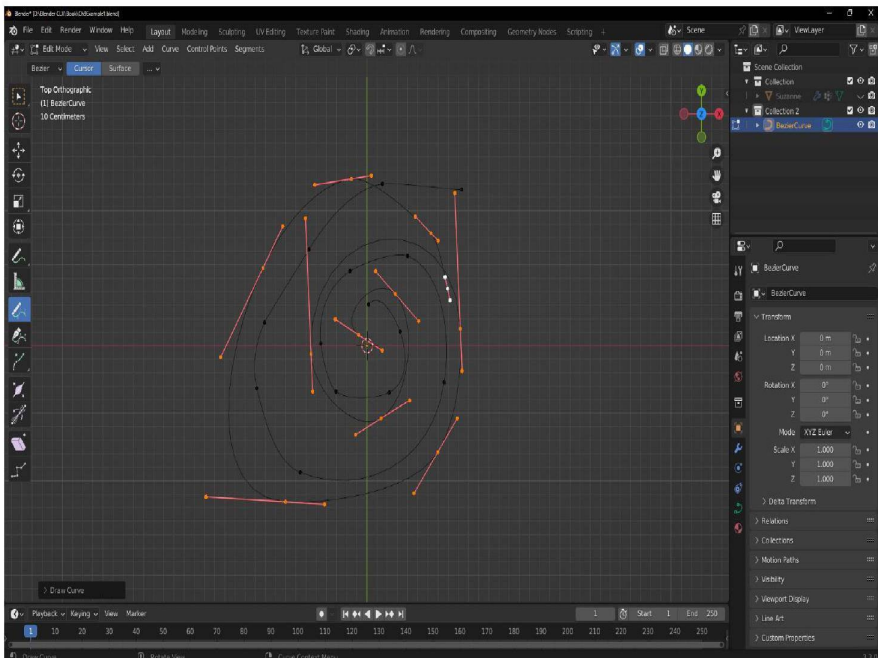

Figure 9.5: Spiral Bezier Curves, hand-drawn in Edit Mode
29. Hand-draw a spiral from the center outward as shown in *Figure 9.5*.